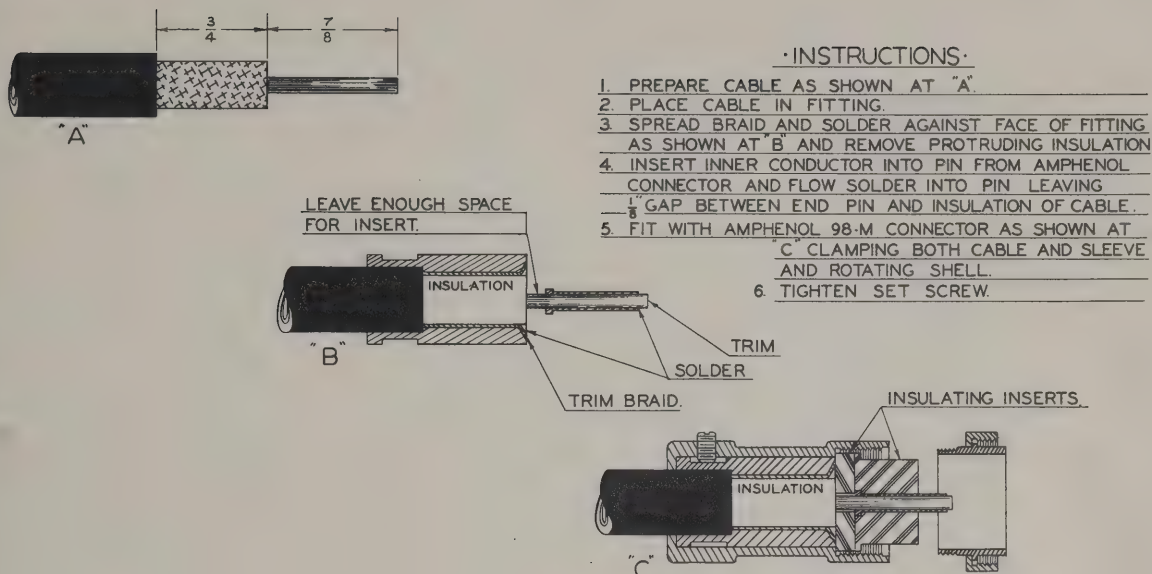

Figure 14. Cable Servicing
a. Directions for the fitting of 93-M Amphenol Connectors on RG-8/U cable are given in Figure 14. A special insert is used with the Amphenol connector (see Section IV, paragraph 4).